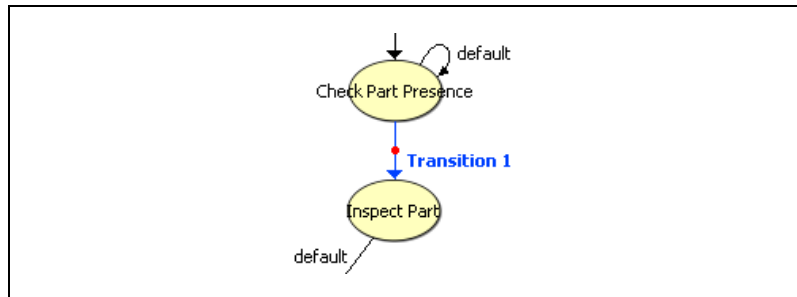

Figure 6-5. Creating a New Transition
13. Click the **Inspect Part** state to create a transition between the Check Part Presence and Inspect Parts states, as shown in Figure 6-5.